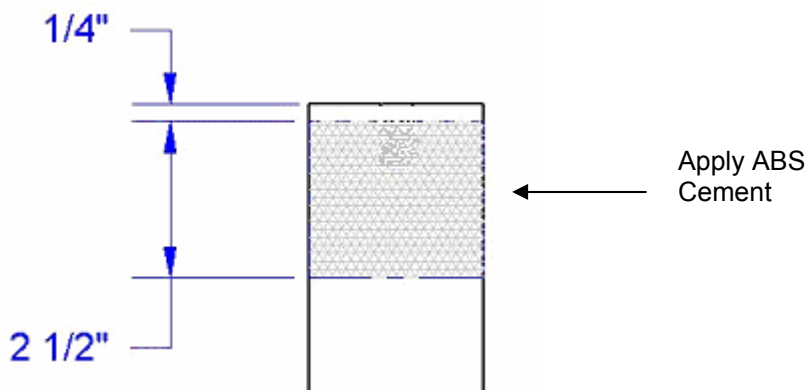

Figure 6 – Casing Preparation
2. Apply ABS 771 Cement to the inclinometer casing (Figure 6). The repair coupler will slide over top and the alignment tool will be used.